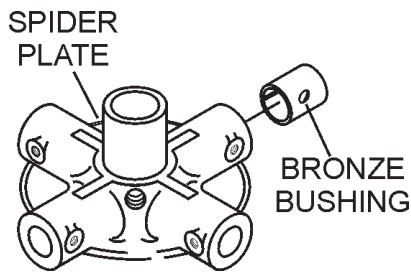

Figure 23. Bronze Bushings
- Examine the bronze trowel arm bushing insert (Figure 23), clean if necessary. Replace bushing if out-of-round or worn.